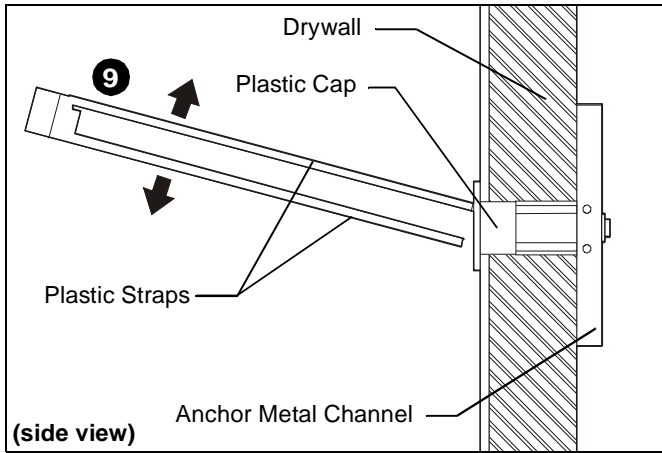

Figure 6
9. Snap off plastic straps on anchor at wall by pushing side to side, snapping off straps level with flange of plastic cap. (See Figure 6)